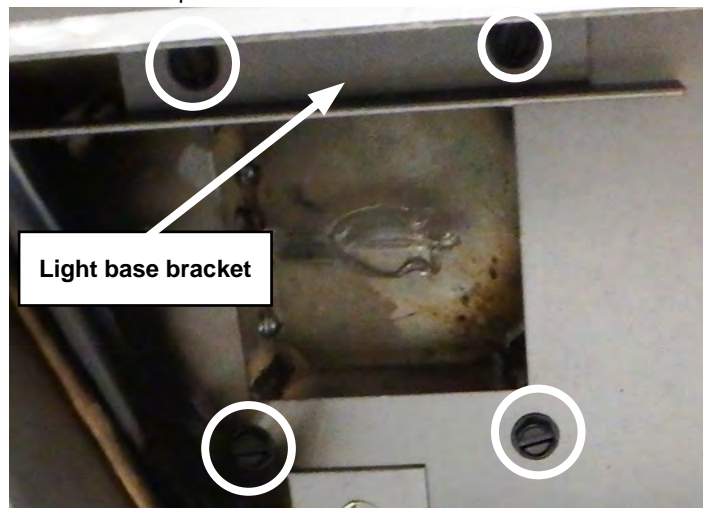

Figure 20.14.04:
Step 5: Route the new light wires and install the new light base using the screws removed in Step 4. Be sure to install the light base bracket as shown in **Figure 20.14.04**.